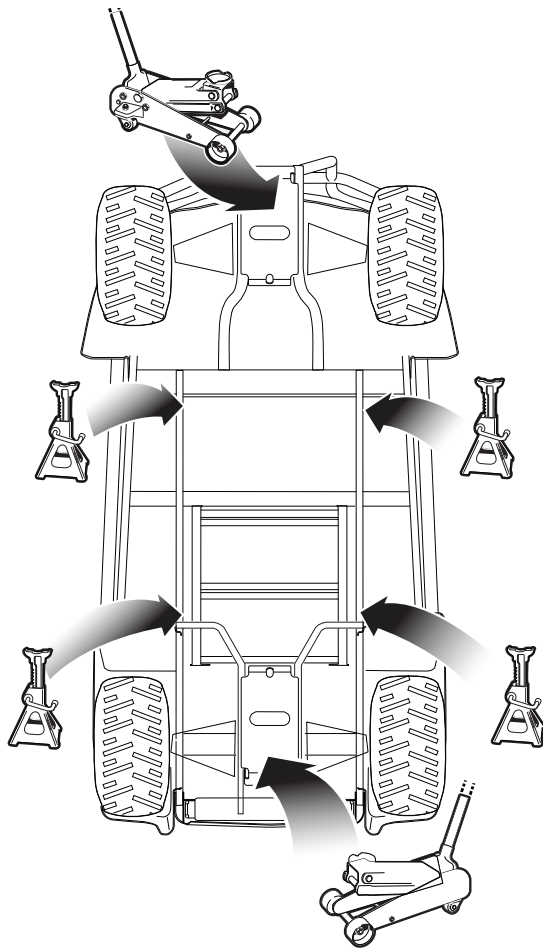

Fig. 1 Lifting the Vehicle
CAUTION **When lifting the vehicle, position jacks and jack stands only in the areas indicated (Ref. Fig. 1).**
2. Put the jack below the rear axle-tube, next to the differential housing or below the skid plate (Ref. Fig. 1).
3. Lift the vehicle and put the jack stands below the frame where the leaf-spring bracket is attached to the frame (Ref. Fig. 1).
2. Place the jack under the center front of the vehicle just behind the bumper (Ref. Fig. 1).
3. Lift the vehicle with jack and position the jack stands under the frame where the instrument panel support is attached to the frame (Ref. Fig. 1).